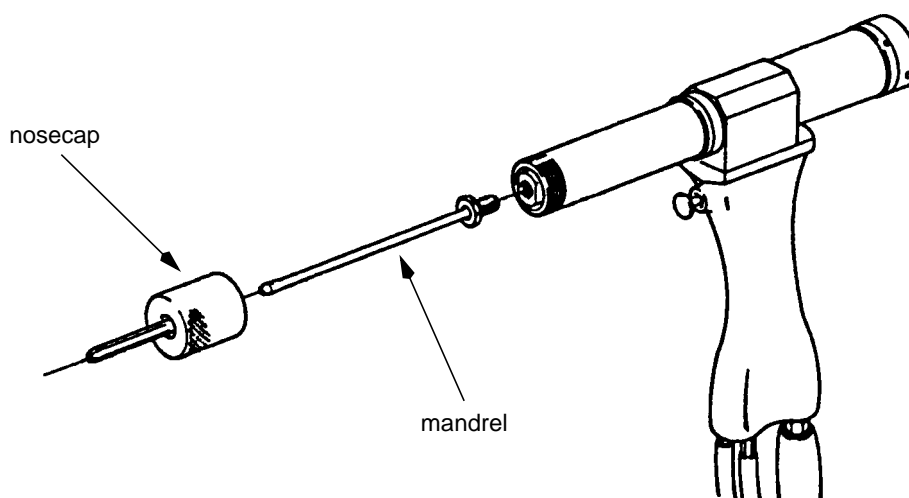

Figure 10 - Assembly of Mandrel/Nose Cap to Puller Unit
5.4.1 Prepare split sleeve cold hole expansion tooling as follows (see Figure 10):